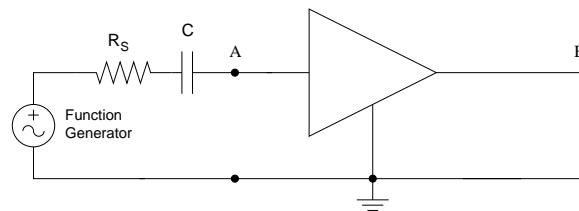

Figure 6.
- (c) Add a DC blocking capacitor as shown in Figure 6. (What size of capacitor should you use? Why?) Note that R_S in Figure 6 is the output resistance of the function generator, which is $50\ \Omega$. How is the output affected. Why?